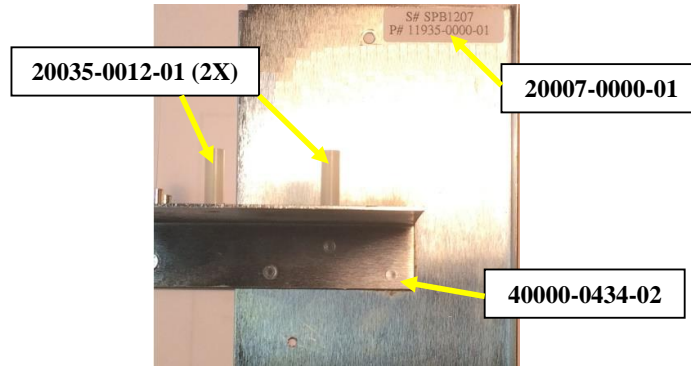

Figure 1
- 1.1. Obtain the Rear Inner Divider (40000-0434-02) and attach the Label, Serial Number (20007-0000-01) as shown in Figure 1. Attach (2) 4-40 x 3/4" Nylon Stand Offs (20035-0012-01) onto the PEM studs as shown in Figure 1.